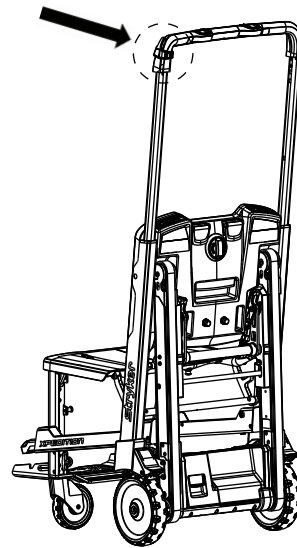

Figure 36 – Attach IV hook to chair
**Note** - Align the IV hook around the extrusion on the grab bar patient left side (Figure 36).